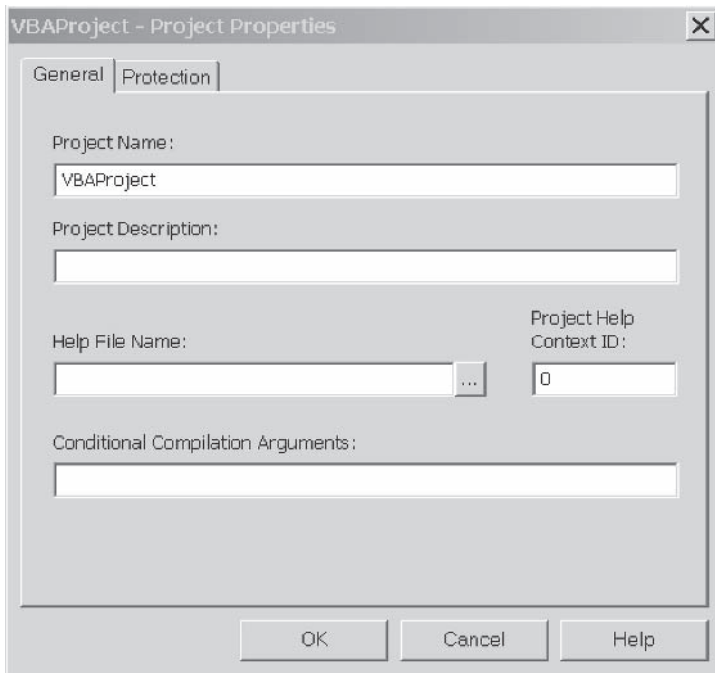

Figure A-4: Setting workbook properties.
Step 2. Right-click on the workbook in the Visual Base Explorer. In the dialog window (Figure A-4) add a project name. This is the name that will appear in the menu when it is added. Click on the **Protection** tab and enter the required information to prevent a user from viewing it. Incidentally, a workbook can also be protected in this way. This is not the same as the **Tools | Protection** option in the workbook.